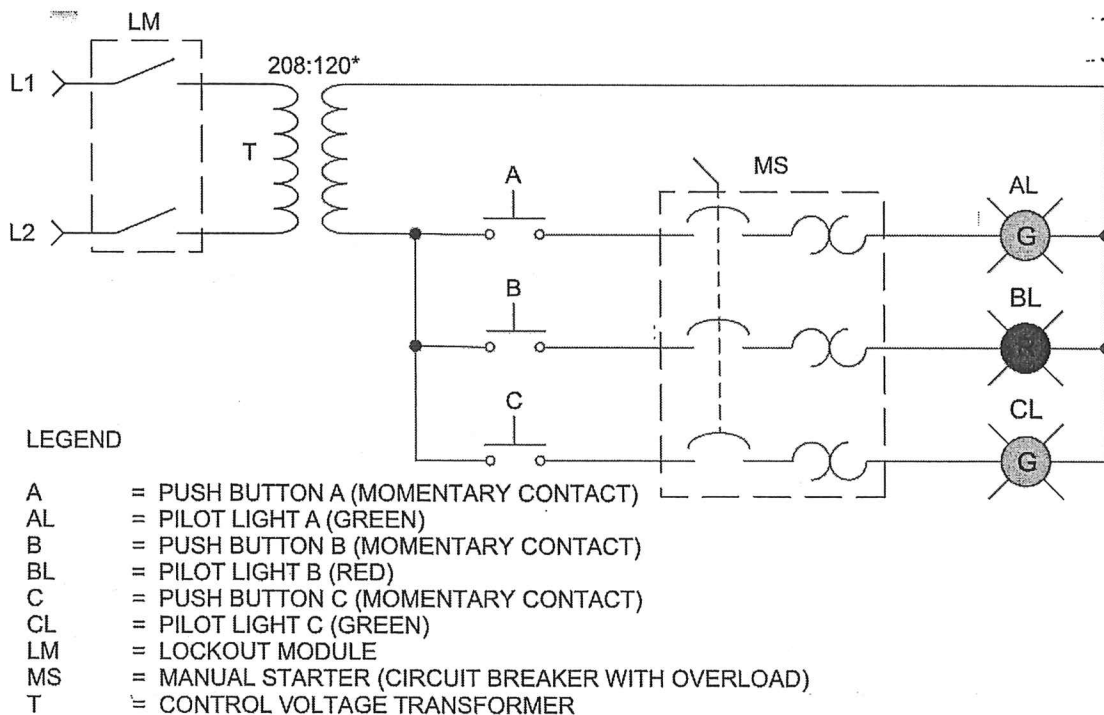

Figure 4
- ___ 2. Wire the circuit as shown in Figure 4 operating each light using the NORMALLY OPEN contacts of the pushbuttons. NOTE that you will need TWO pushbutton modules and TWO pilot light modules.